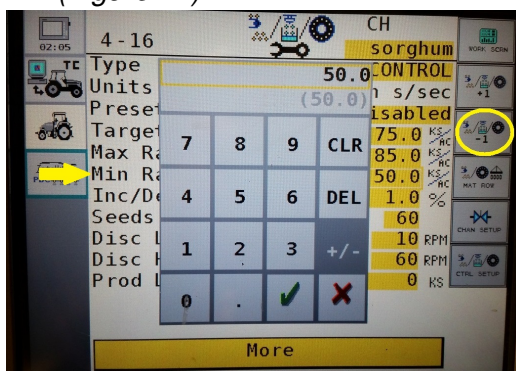

Figure 14
Step 9. Select **Min Rate** and enter. The Min Rate is setting the minimum it will allow you to adjust the rate while going through the field using (-) button. (Figure 14)